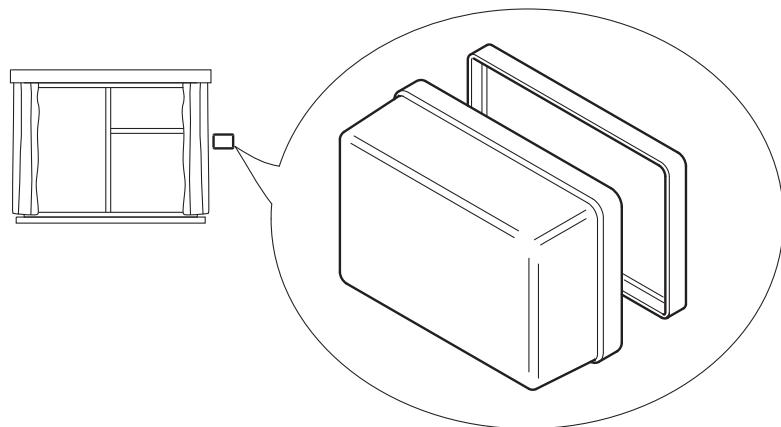

Fig. 11
- 4 (a) Fig. 11 shows the two parts of a vacuum formed casing for an electronic curtain closing device.